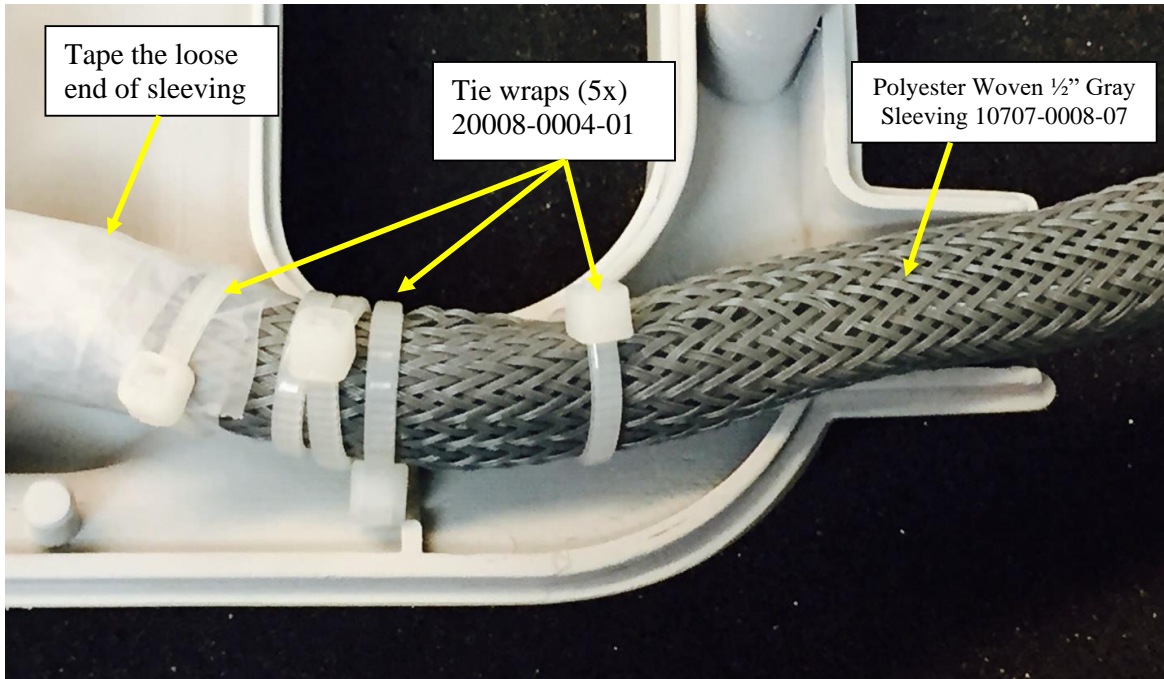

Figure 15
6. Pull the bundle through the sleeving. Then secure the loose end of the sleeving using tape as shown in Figure 15.
7. Apply (5) 4” tie wraps (20008-0004-01) to the bundle around housing exit for strain relief as shown in Figure 15. **Note: The tie wraps should be tight but do not crush the tubing.**